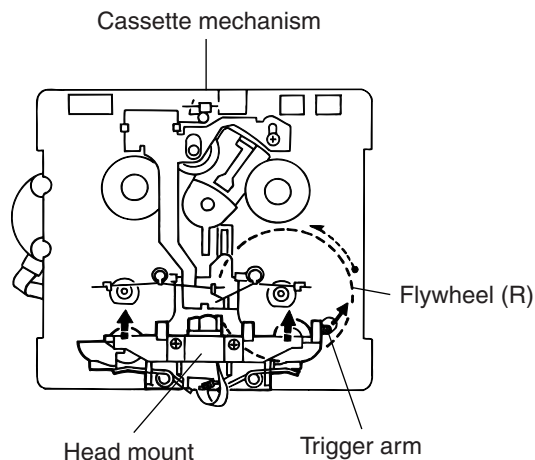

Fig. 1
### ■ Removing the Recording, Playback / Erasing Head (Refer to Figs. 1 to 3.)
1. Shifting the trigger arm seen in the right side of the head mount in the arrow-marked direction, turn the flywheel (R) counterclockwise until the head mount clicks while moving forwards. (See Fig. 1.)